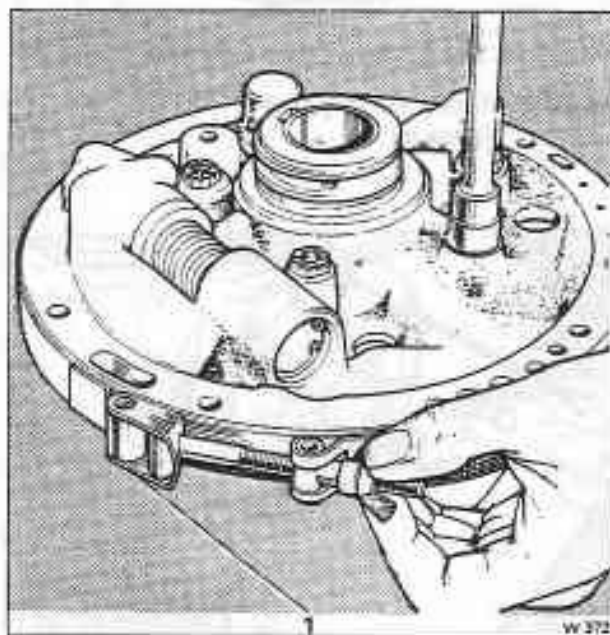

Fig. T17-6 Aligning pump cover with pump body
10. Fit the pump body and cover alignment band J-21368 around the pump assembly. Tighten the band to align the cover with the body (see fig. T17-6).